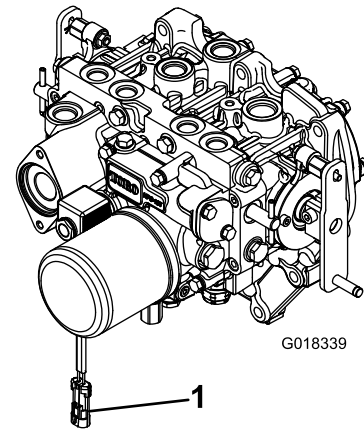

Figure 3
2. Disconnect the wire-harness connector from the PTO solenoid-valve-coil connector (Figure 3).
- 8. After you connect the other end of the driveshaft to the attachment gearbox shaft, connect the wire-harness connector to the PTO solenoid-valve-coil connector (Figure 3).